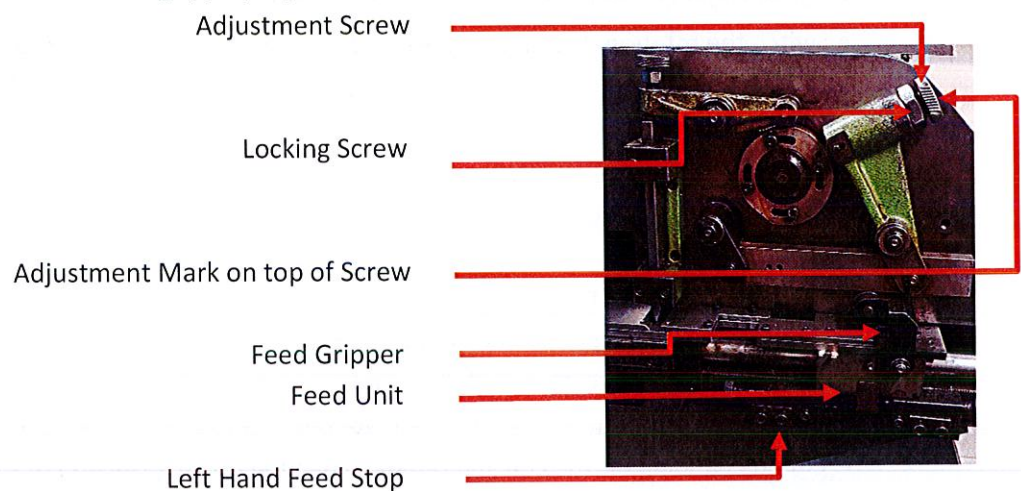

Figure 5: Details of the machine feed unit.
- Wind the machine over until it has fully fed i.e. Feed unit on the left-hand feed stop. (figure 5)